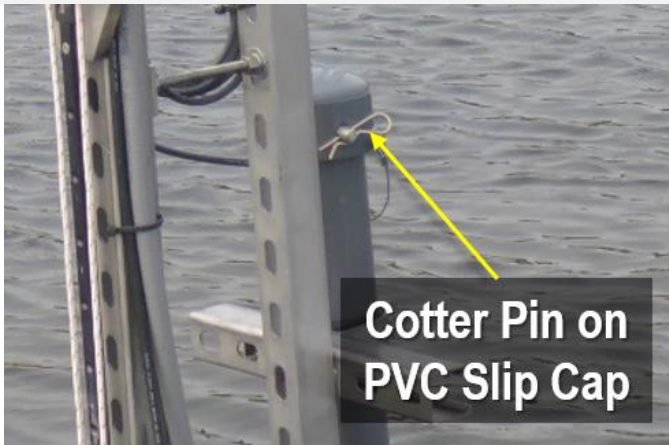

Figure 14. Remove Cotter Pin from PVC Slip Cap to Access Sensor
STEP 4 | Remove the cotter pin from the PVC slip-on cap (Figure 14). Inside the tube, remove the sensor from the white delrin sensor mounting disc.